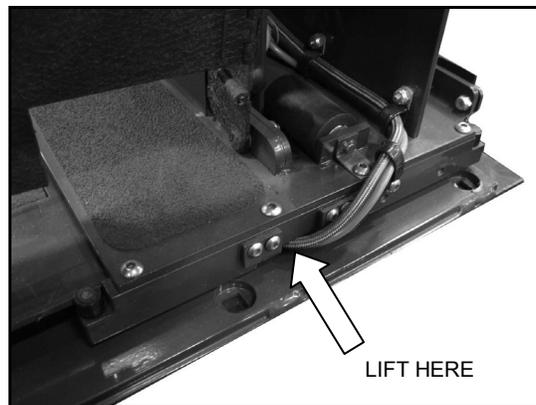

FIGURE 3-23
3. Refer to **Figure 3-23**. Pry up on front rail to remove lift weight on roller. Push pin bushings and sleeve out.